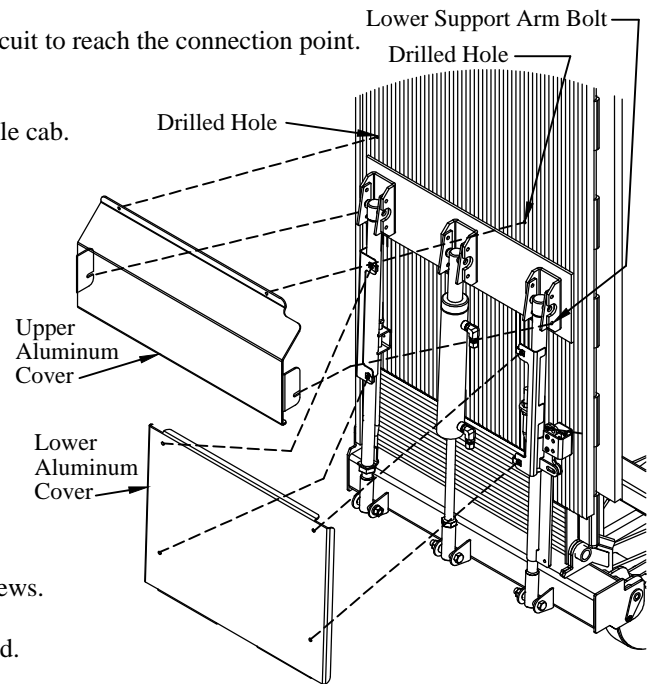
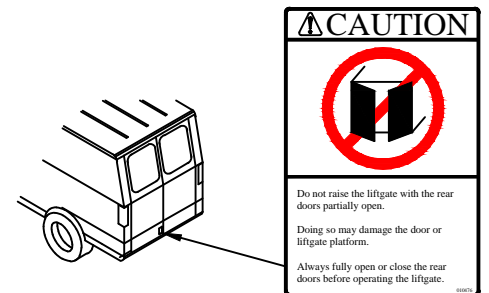

Figure 20: Aluminum cover installation.
Figure 21: Caution decal location.
7. **Install** the upper aluminum cover on the lower 5/16" support arm bolts. 5/16" flat washers should have been installed previously (Figure 20).
8. **Drill** two (2) 13/64" holes in the platform, using the holes in the aluminum cover as a guide.
9. **Install** two (2) 1/4-20 self-tapping screws in the drilled holes.
10. **Install** the lower aluminum cover using four (4) 1/4-20 self-tapping screws.
12. **Secure** the limit switch wire to the support arm and limit switch bracket using two (2) plastic zip ties. This should be done with the platform unfolded.
13. **Adhere** decal (PN 10476) to the exterior bottom right corner of the driver side rear door (Figure 21).